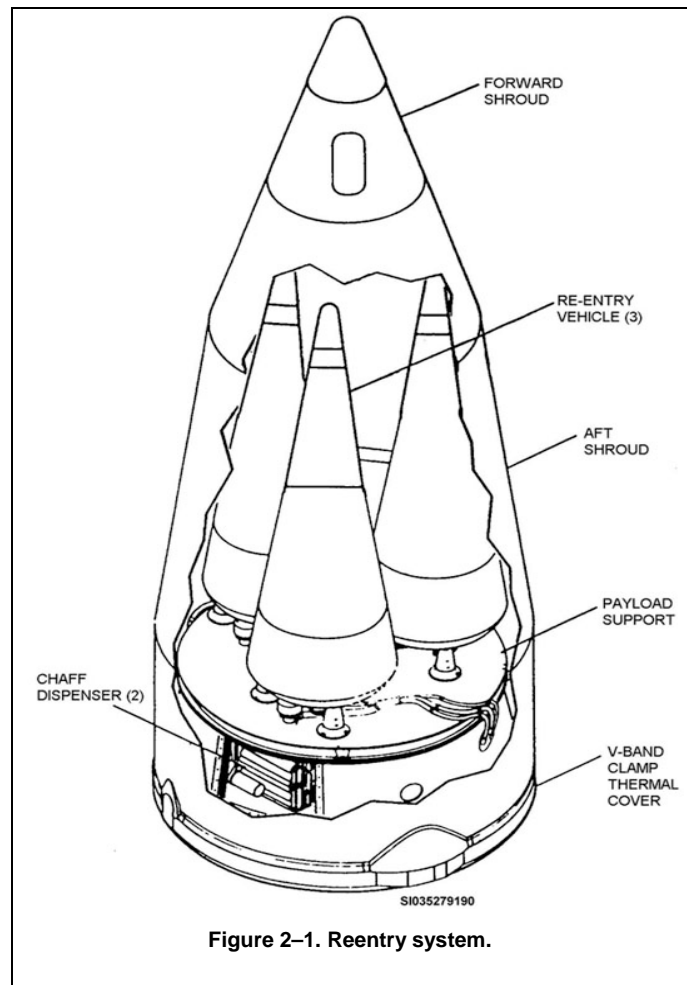

Figure 2-1. Reentry system.
The RS consists of the RS payload, a deployment module (DM), and a shroud assembly (fig. 2-1).